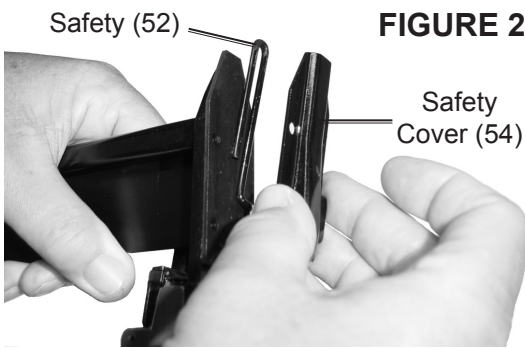

FIGURE 2
3. Lift the Safety Cover (54) off the top of the stapler - see *Figure 2*.